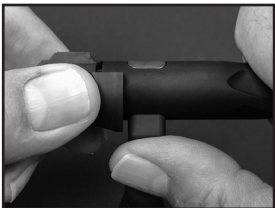
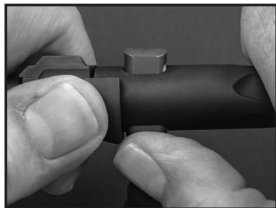

Figure 29-1
Figure 29-2
2. Compress the shroud towards the front of the bolt 1/8" and while maintaining pressure, Press the handle inward, (Figure 29-1) then release the pressure on the shroud (Figure 29-2).